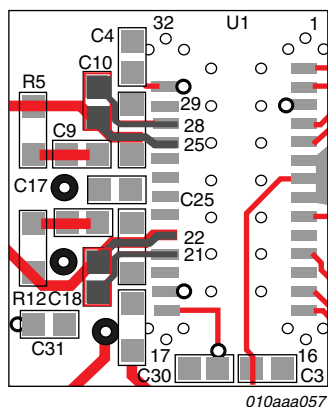

Fig 32. Bootstrap capacitor high-side driver C10, C18
- Place the Bootstrap capacitor of the high-side driver close to the IC (see Figure 32).